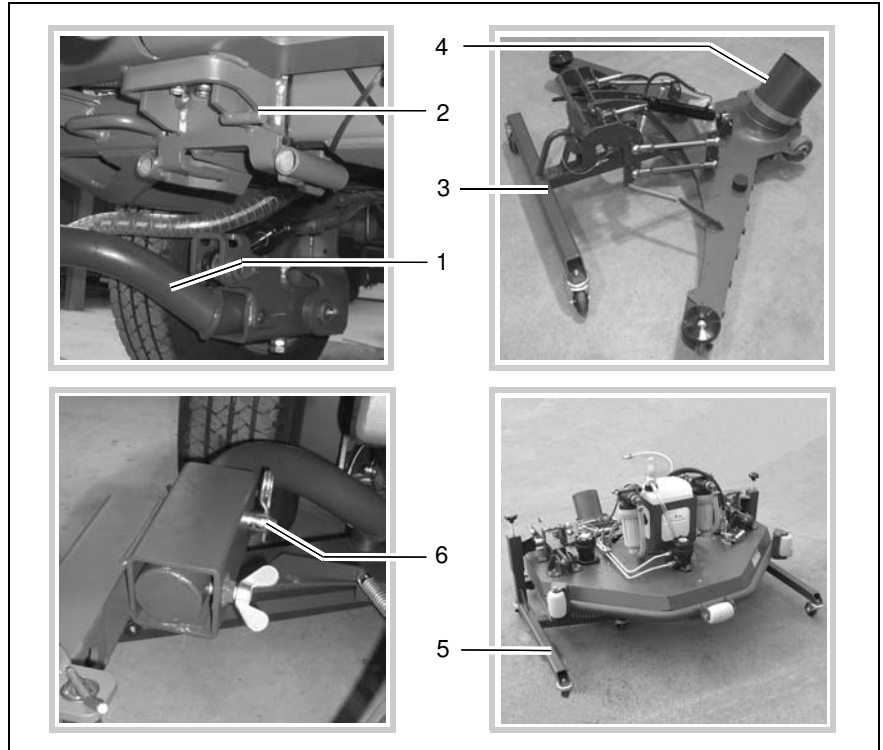

Fig.37
1. Assemble the supporting arms (Fig. 37/1) on the Hako Citymaster and secure using bolts and linchpins.
2. Secure the holder (Fig. 37/2) on the Hako Citymaster for the squeegee. After the initial installation the stand may remain attached to the device!
3. Guide the squeegee of the Citycleaner with the trolley (Fig. 37/3) into the holder (Fig. 37/2) and latch it in.
4. Fix the suction hose of the Citymaster to the suction pipe (Fig. 37/4).
5. Push Citycleaner with trolley (Fig. 37/5) on the supporting arms and secure using bolts and locking pins (Fig. 37/6).